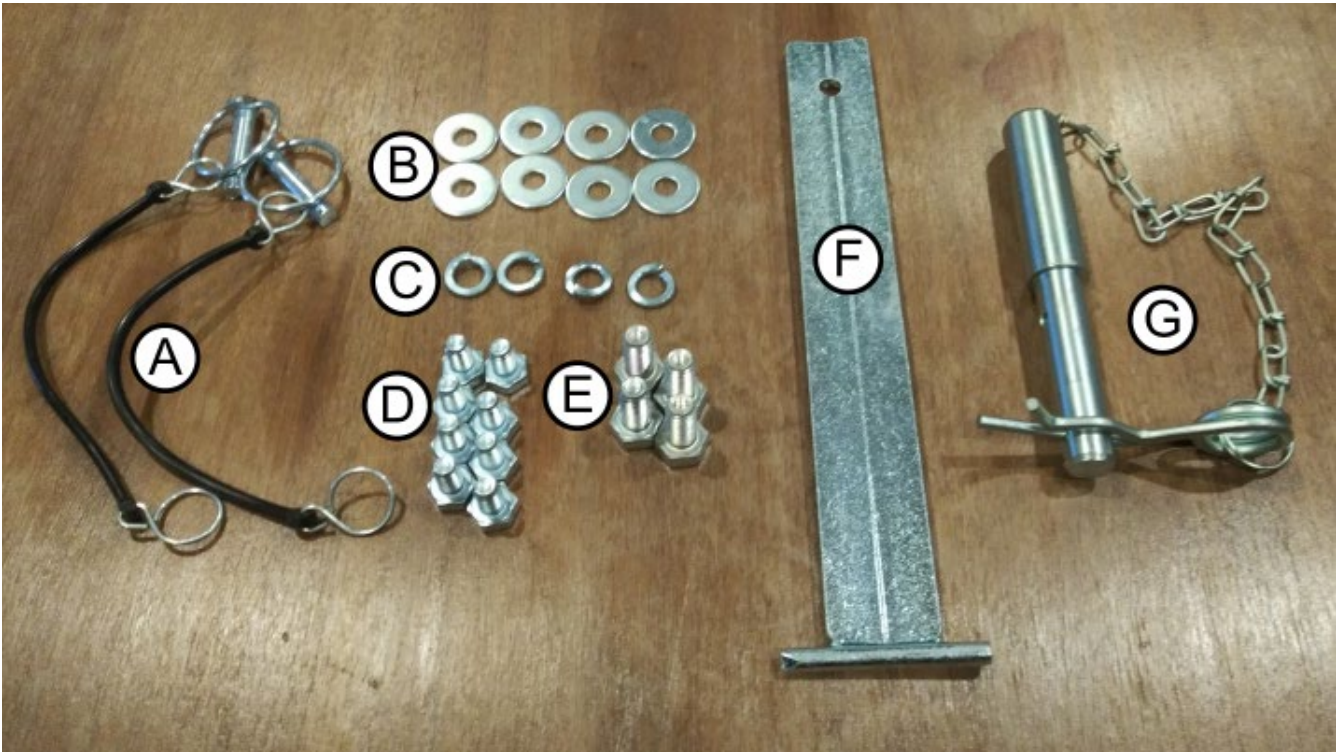

Figure 2 - Hardware identification
- To replace the blades, first loosen or remove the corresponding retaining bolt on the upper disc of the drum. Then use the blade change tool (see Figure 2, item F) or a pry bar to pry down on the
- Use Figure 2 as a guide to the items in the hardware box.
- Some assembly pictures in the owner's manual provided by the manufacturer are outdated. Don't let that confuse you – work with the parts that you have on hand and use Figure 2 as a guide.